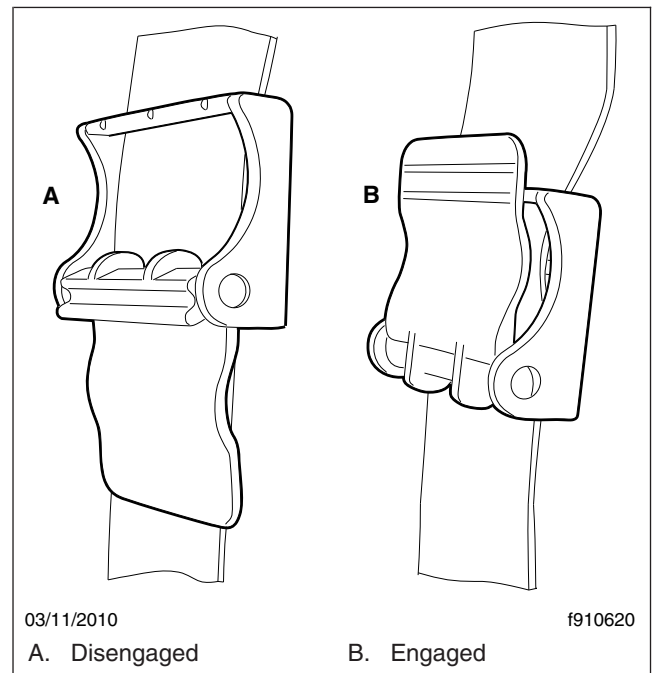
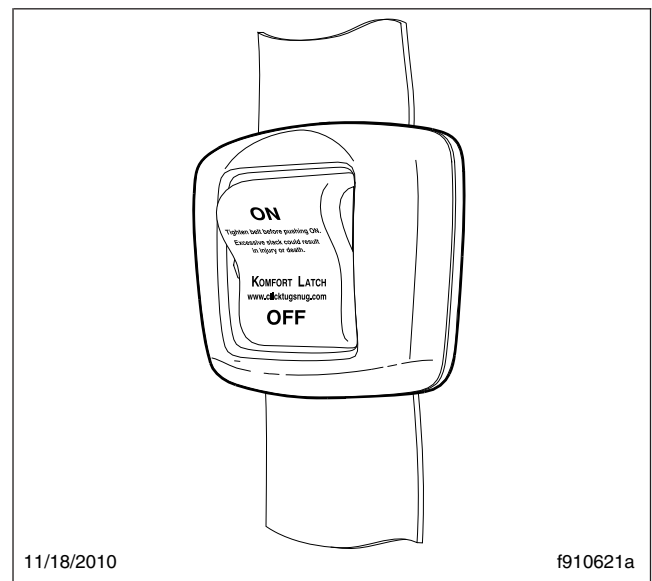

Fig. 7.7, Komfort Latch
Fig. 7.8, Sliding Komfort Latch
When engaged and used properly, the Komfort Latch (Fig. 7.7) and the Sliding Komfort Latch (Fig. 7.8)
*If equipped with a Sliding Komfort Latch, make sure that the shoulder strap is snug against your chest. Without loosening the shoulder strap, push the Sliding Komfort Latch switch to the "ON" position. See **Fig. 7.8**. To activate the latch lean forward until you hear a click. This will allow for approximately 1 inch (2.5 cm) of slack between your chest and the shoulder harness. Once engaged, the latch will allow you to lean forward about 5 inches (13 cm) without having to reset the latch. Leaning forward more than 5 inches (13 cm) will disengage the Sliding Komfort Latch, requiring it to be reset.*